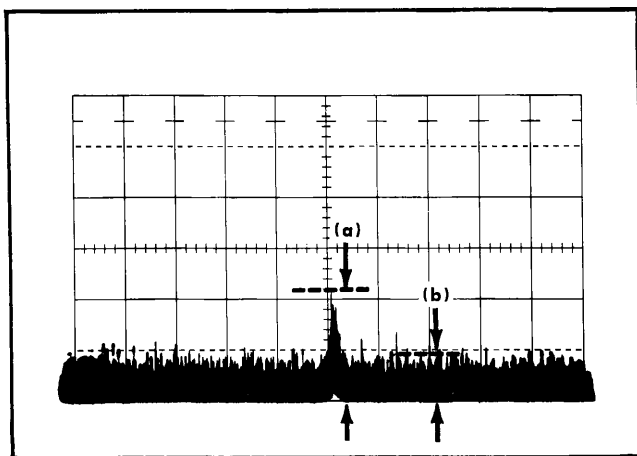

Fig. 4-3. Measurement of relative amplitude between an applied low-level signal and the noise of the system. (a) Amplitude of signal and (b) amplitude of noise.
4. Decrease the output amplitude of the r-f generator to  $-100 \text{ dbm}$  and note the relative amplitude between the displayed signal and the noise displayed on the trace (see Fig. 4-3). The signal must be twice or more the amplitude of